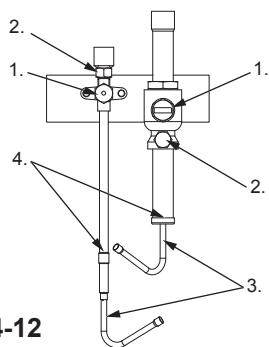

Fig. 4-12
4.5. Installing the refrigerant piping (main pipe) (Fig. 4-12)